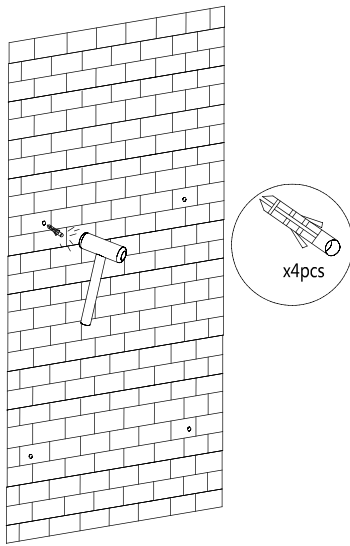

Fig. 4
- Place the support by matching the holes with the rawplugs and screw in firmly. (Fig.4).